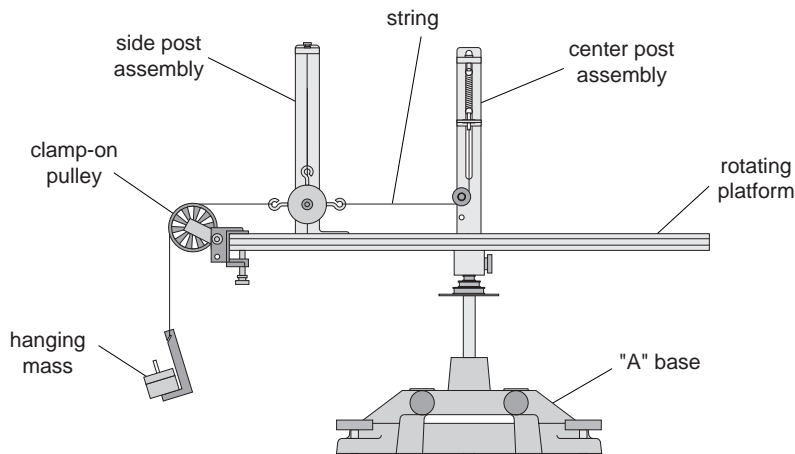

Figure 3.1: Centripetal Force Apparatus
- ① The centripetal force and the mass of the hanging object will be held constant for this part of the experiment. Weigh the object and record its mass in Table 3.1. Hang the object from the side post and connect the string from the spring to the object. The string must pass under the pulley on the center post. See Figure 3.1.